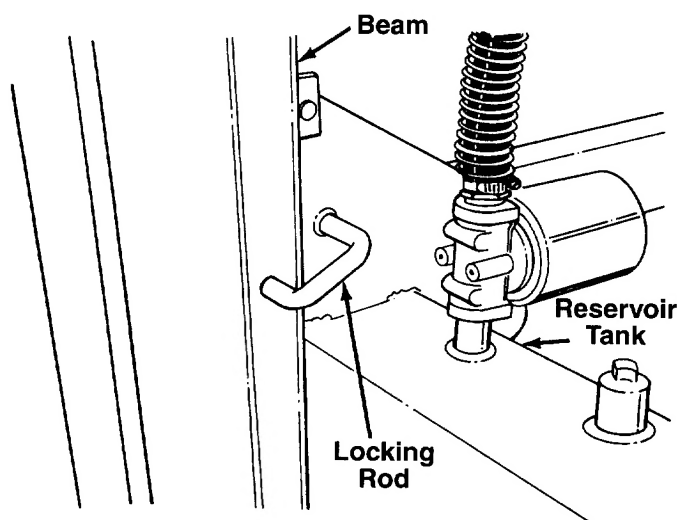

FIGURE 12.
1. Place log splitter on a dry, firm, level surface. Block the wheels. For vertical operation, pull the vertical position release rod out and pivot it down to release the beam. Place the beam in the vertical position. Lock the beam in the vertical position, by pulling out on the locking rod and pivoting it to the left. See figure 12.